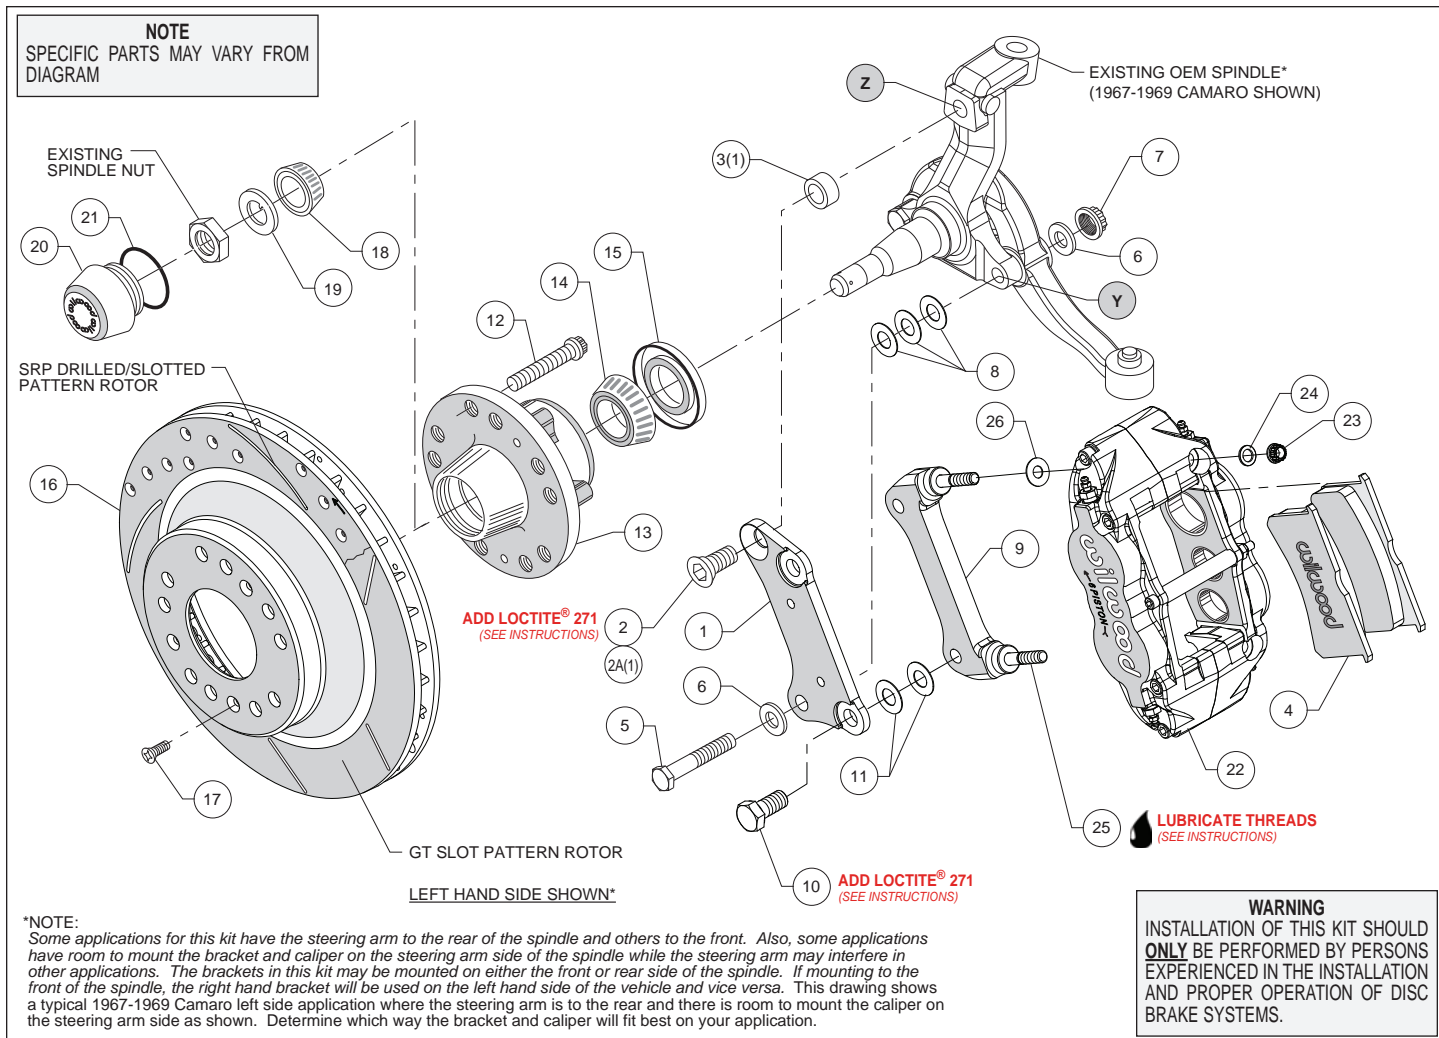
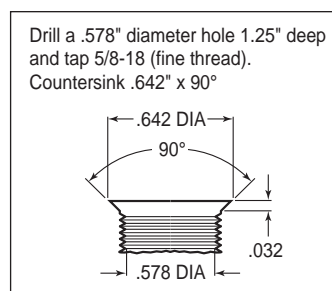

Figure 1. Typical Installation Configuration
Figure 3. Drill and Tap Detail
**Assembly Instructions** (numbers in parenthesis refer to the parts list on the preceding page, and Figure 1):
•**NOTE:** Some applications for this kit have the steering arm to the rear of the spindle and others to the front. Also, some applications have room to mount the bracket and caliper on the steering arm side of the spindle while the steering arm may interfere in other applications. The brackets in this kit may be mounted on either the front or rear side of the spindle. If mounting to the front of the spindle, the right hand bracket will be used on the left hand side of the vehicle and vice versa. Figure 1 shows a typical 1967-1969 Camaro left side application where the steering arm is to the rear and there is room to mount the caliper on the steering arm side as shown. Determine which way the bracket and caliper will fit best on your application.
•**NOTE:** Some spindles in this year range may require the following modifications (reference Figure 1 and Figure 3): Top anchor pin hole (Z) must be drilled and tapped to the dimensions as outlined in Figure 3. The lower bolt hole (Y) in the spindle used to mount the new caliper bracket, and the mating steering arm hole, must be enlarged to .50" by drilling. It is recommended these modifications be performed by a qualified machinist.
•Install wheel studs (12) into the hub (13), Photo 1. Torque to 77 ft-lb. **NOTE:** There are two five lug patterns in the hub (5 x 4.50 and 5 x 4.75). Make sure of the correct hole pattern for the correct wheel application before installing studs into hub.
•Pack the large inner bearing cone (14) with high temperature disc brake bearing grease (available from your local auto parts store) and install into the backside of the hub (13).
•Install the grease seal (15) by pressing into the backside of the hub (13), Photo 2.
•**Disc Brake Spindle Application Only:** Follow the instructions below, but instead use bolt (2A), and spacer (3) in the upper bolt hole location, Figure 1.
•Orient the flat bracket (1) as shown in Figure 1 and Photo 3, and install using bottom bolt (5), washers (6), and nut (7), Figure 1. Initially place three .032" thick shims (8) between the bracket and spindle. Install the upper bolt (2 or 2A). Temporarily tighten bolts. **NOTE:** The bracket must fit squarely against the mounting surfaces on the spindle. Inspect for interference from casting irregularities,
machining ridges, burrs, etc. Temporarily install the new hub/rotor. Check that the bracket is aligned parallel to the rotor, Photo 4. If not, adjust by adding or subtracting shims (8) on the lower bolt between the bracket and spindle, Figure 1. Once the bracket alignment is correct, remove the upper bolt (2 or 2A), apply red *Loctite*® 271 to the bolt threads, and torque to 120 ft-lb. Torque the lower lock nut to 65 ft-lb.
- The radial mount caliper bracket (9) should initially be installed with clean, dry threads on the mounting bolts. Orient the bracket as shown in Figure 1 and Photo 5, and install using bolts (10). Initially place two .029 thick shims (11) on each bolt between the two brackets, Figure 1. Temporarily tighten the mounting bolts. Later, after the caliper alignment has been checked, the mount bolts will be secured using red *Loctite*® 271.
- Final install the hat/rotor (16) onto the hub (13), taking care to align the small countersunk holes in the hat with the small threaded holes in the hub. **NOTE:** *The hat must fit flush against the hub face or excessive rotor run out may result.* Install three flat head screws (17) through the small holes in the hat (16), Photo 7, and torque to 85 in-lb.
- NOTE:** *This kit contains distinct right and left hand calipers that must be mounted in a specific direction, as described below.* Lubricate the caliper mounting studs (25) with lightweight oil. Initially place one .035" thick shim (26) on each stud between the caliper and the bracket, as shown in Figure 1 and Photo 8. Mount the caliper (22) onto the bracket (9) using lock nuts (23) and washers (24), Figure 1. Ensure that the caliper is mounted so the largest pistons are at the rotor exit end of the caliper, in relation to the direction of rotor rotation. Temporarily tighten the lock nuts. The rotor should be centered in the caliper, Photo 9. If not, adjust by adding or subtracting shims (11) between the flat bracket (1) and the caliper bracket (9). Always use the same amount of shims on each of the two mounting bolts. Once the caliper alignment is correct, remove the bracket mounting bolts one at a time, apply red *Loctite*® 271 to the threads, and torque to 77 ft-lb.